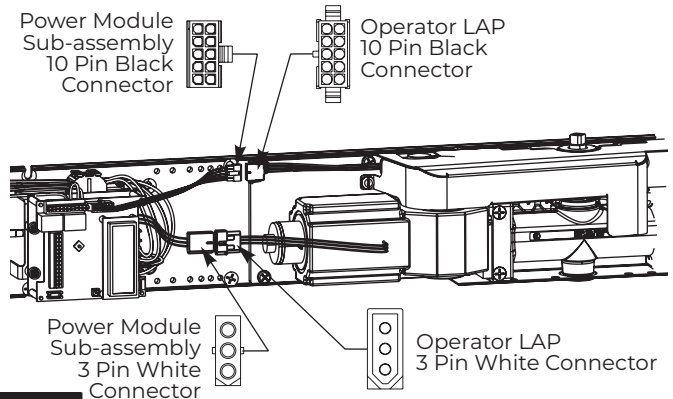

Figure 16
1. Attach 10-pin black connectors between operator LAP and power module sub-assembly. (Figure 16)
2. Attach 3-pin white connectors between operator LAP and power module sub-assembly. (Figure 16)